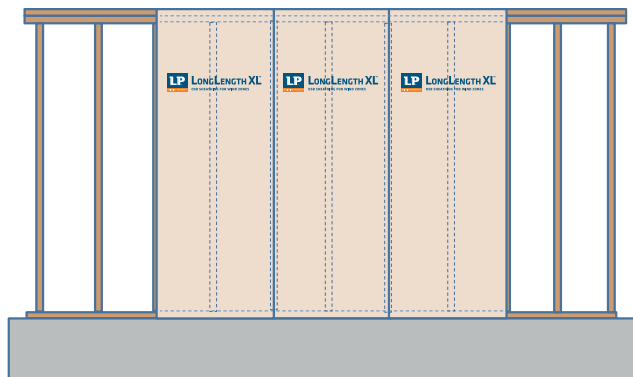

Figure 1: Application Across Multiple Spans
- Panels shall be applied continuously across a minimum of two spans (see Figure 1). Provide a 3/4" expansion joint between continuous wall sections exceeding 80' in length. Consult local building codes for requirements.